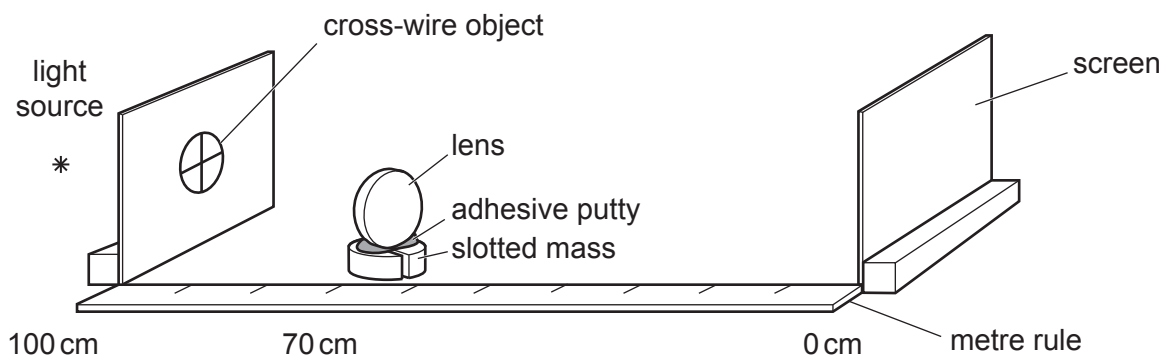

Fig. 4.1
The screen must be placed by the 0 cm mark of the metre rule, and the cross-wire object placed by the 100 cm mark of the metre rule. The lens must be placed between the cross-wire object and the screen approximately 70 cm from the screen with the face of the lens at an angle to the metre rule, as shown in Fig. 4.1. A small amount of adhesive putty should be used to fix the cross-wire object and ruler in place to avoid movement during the experiment.
3. The light source must be placed just behind the cross-wire object, as shown in Fig. 4.1, and lined up with the centre of the hole. The light must have sufficient brightness to illuminate the screen 100 cm away. A 12 V lamp, such as one found in a ray box, connected to a suitable power supply, is appropriate. The experiment must be performed in a darkened part of the laboratory.
The supervisor must ensure that the apparatus is in the configuration shown in Fig. 4.1 and as described in Note 1 with the light source switched off.